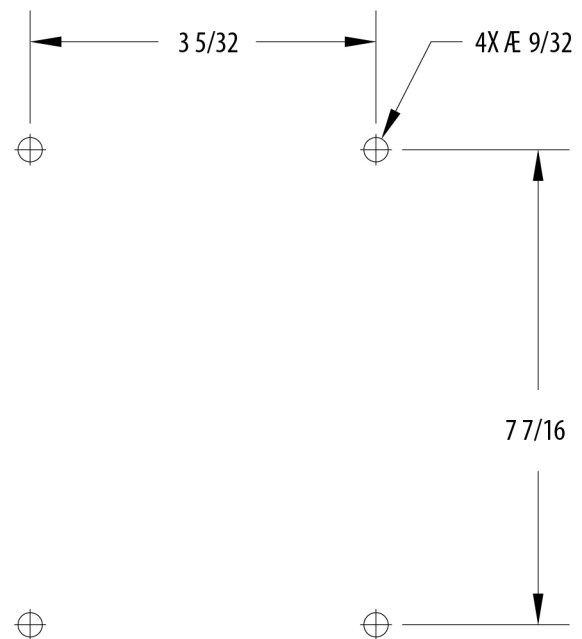

Figure 8. IQ Power BPS Mounting Pattern
1. Use pattern in Figure 8 for mounting power supply on your machine. Mount power supply following instructions included with your power supply.